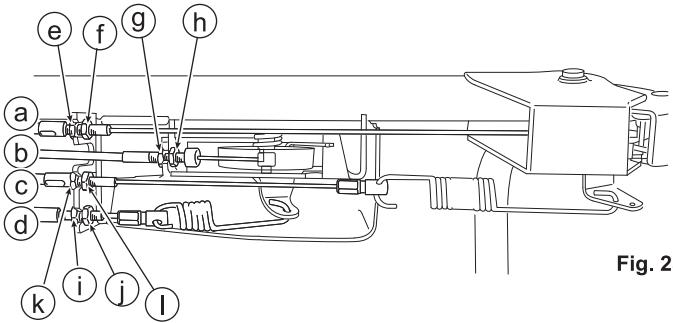

Fig. 23
8.5.1 Throttle Lever (See Figs. 23 and 24)
8.5.2 Blade Lever (See Figs. 23 and 25)
- 3 Confirm that the blade stops completely when Blade lever (C) is released.
8.5.3 Drive Clutch Lever (See Figs. 23 and 26)
- 3 Confirm that the machine can be pulled backward when Drive clutch lever (B) is released.
8.5.4 Gearshift Lever (See Figs. 23 and 27)